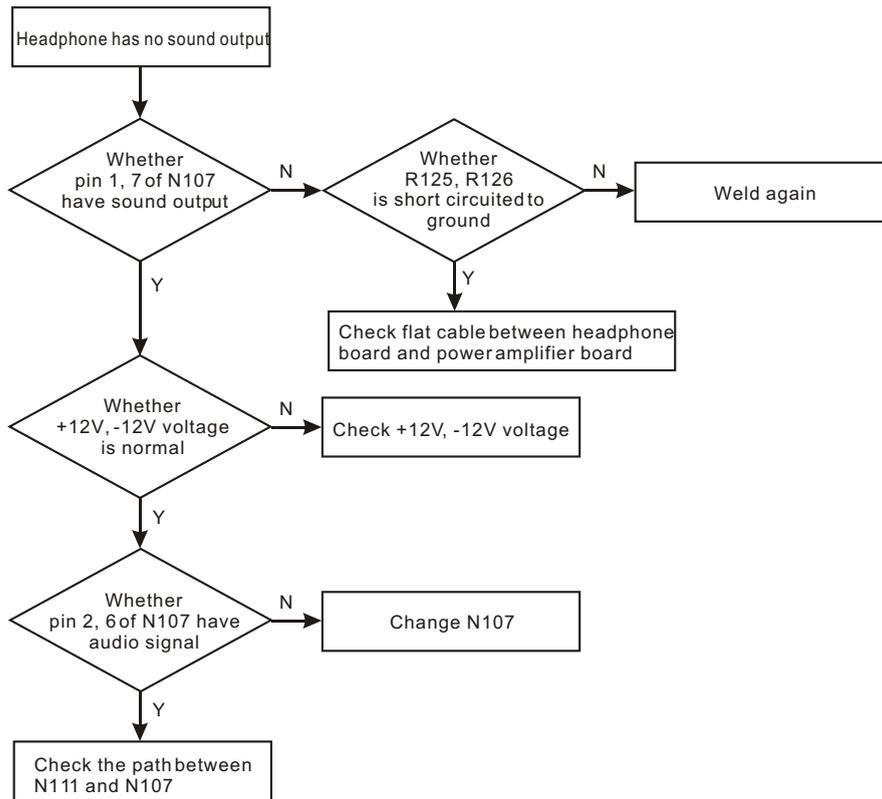

Figure 3.3.2.4 Troubleshooting flow chart for “Headphone has no sound output”
5. Troubleshooting process for “Power not on” is shown in the figure 3.3.2.5: